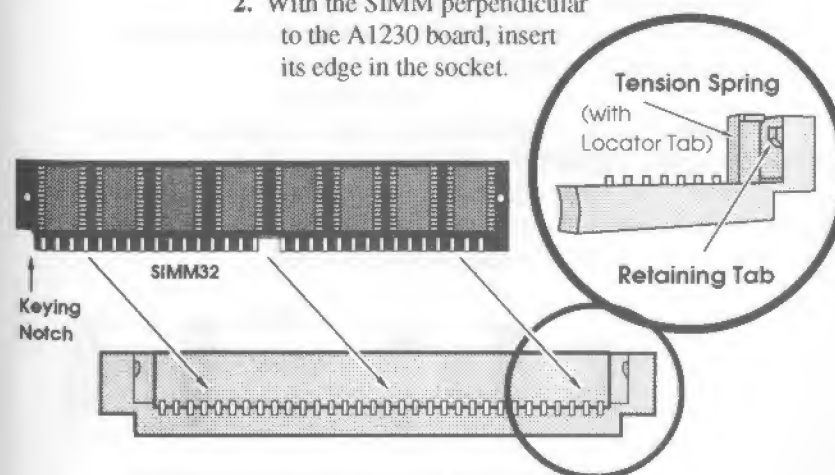

Figure 3.4 — How a SIMM socket works
1. Orient the SIMM with the keying notch to the left (see Figure 3.4).